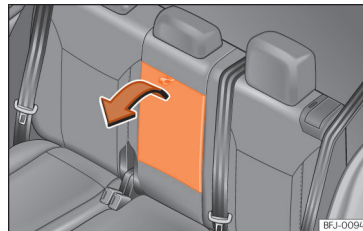

Fig. 100 Folding rear centre armrest.
- To *lower* the armrest, pull the cord in the direction of the arrow » **Fig. 100**.